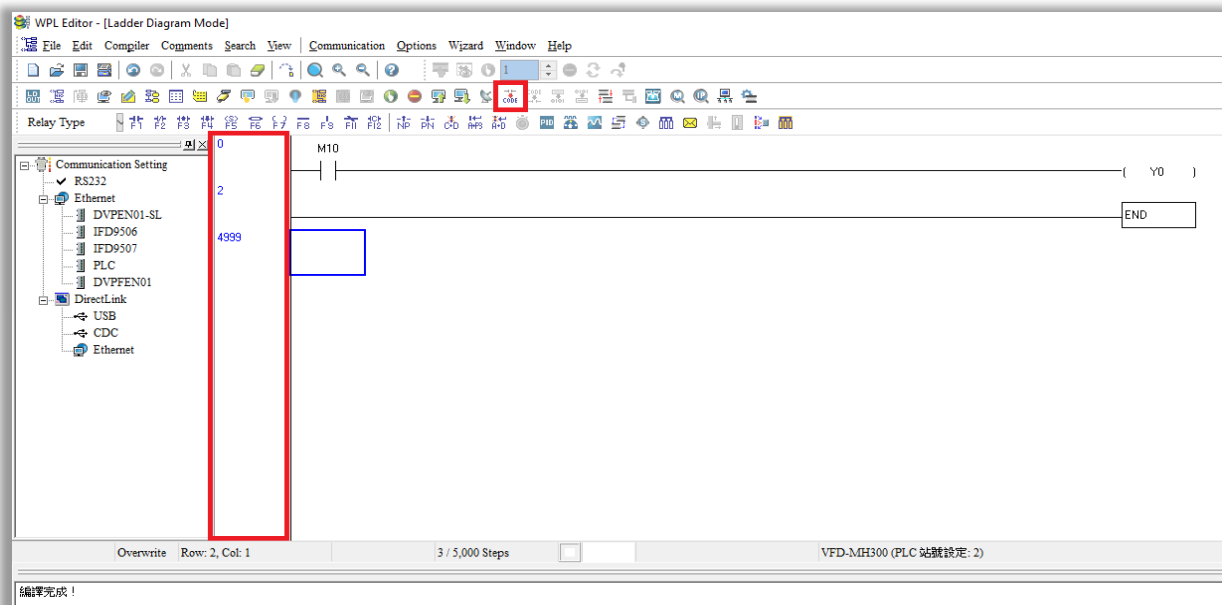

Figure 16-18
Step 5: Click on the  “Ladder diagram => Code” icon, which will compile the edited ladder diagram as a command program. After compiling, the number of steps will appear on the left side of the busbar (see figure 16-18 below).